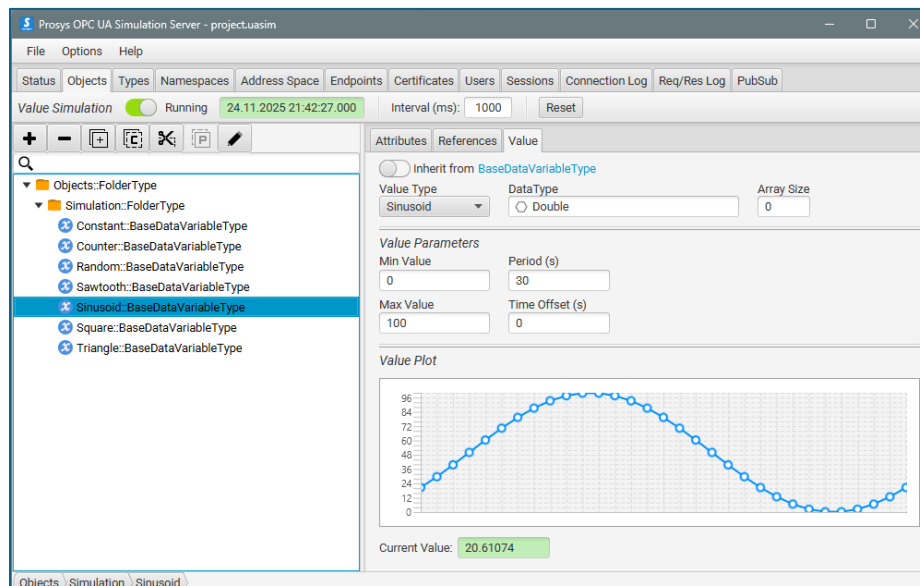

Figure 10 - Example of a sinusoid simulated signal in OPC UA simulator
- The OPC UA simulator server was installed. Three arbitrary signals were selected with values ranging from 0 to 100: Random, Triangle and Sinusoid (see Figure 10).